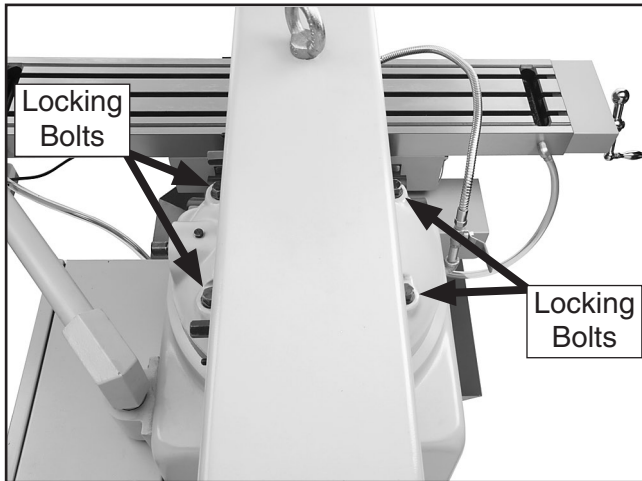

Figure 34. Ram rotation locking bolts.
2. Loosen the four rotation locking bolts on top of the column shown in **Figure 34**.